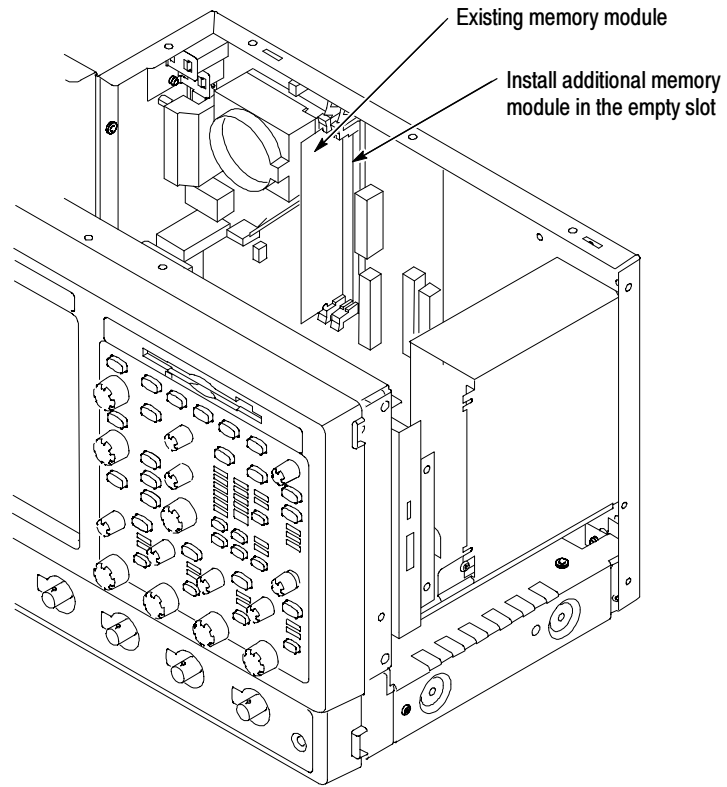

Figure 12: Memory from your old CPU
3. Remove the memory stick(s) from the old board to install into the new CPU assembly. See Figure 12, on page 19.